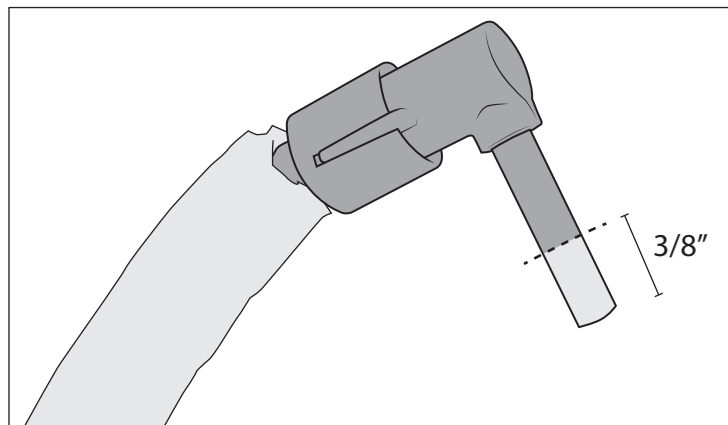

Figure 15
10. Use a sharp razor or knife to trim $3/8$ " off the chassis air line. Cut must be clean and square. Press air line into the push connect fitting making sure it engages fully (fig. 15).